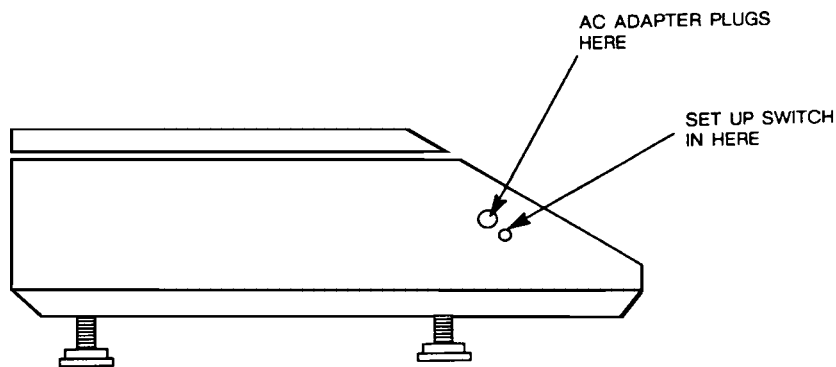

Figure 1
4. Using the plastic tool supplied with the unit, push the push-button set-up switch (figure 1) ON. Access to this switch is through the small hole in the cover on the left side of the scale.